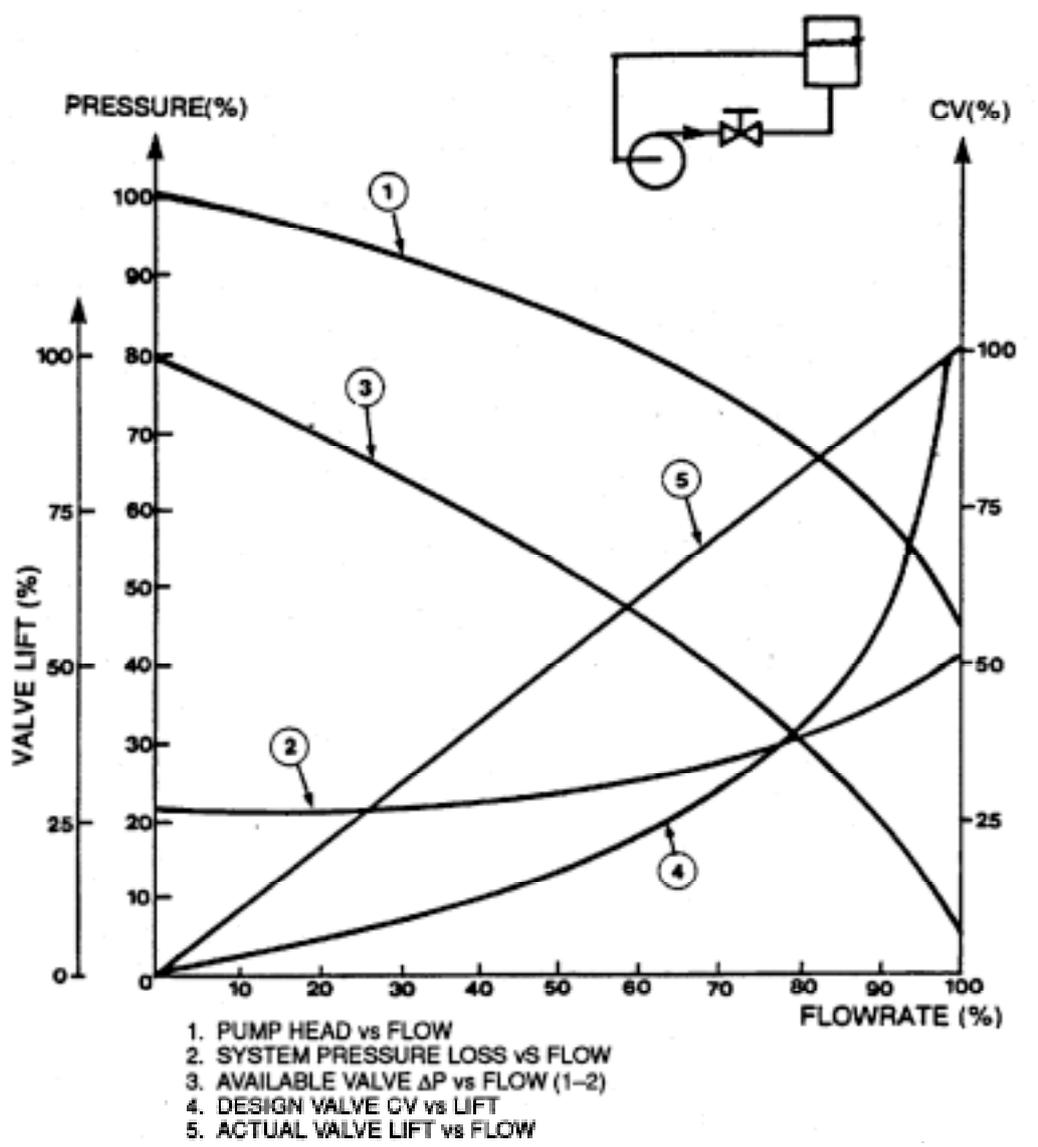

Figure 13 - Typical pump head curve with system losses
- From Figure 13, it can be seen that the **difference** between the pump head curve (line 1) and system pressure loss (line 2) curve is the pressure (DP) that is allocated for the valve, (line 3).